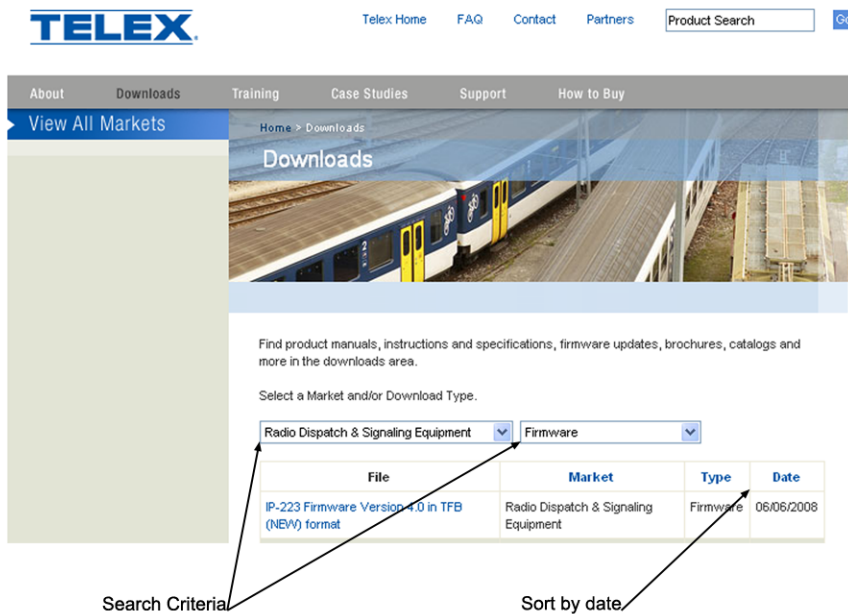

FIGURE 7. Telex Website Firmware Downloads.
1. Set the search criteria to **Radio Dispatch & Signaling Equipment** and **Firmware**, see Figure 7.